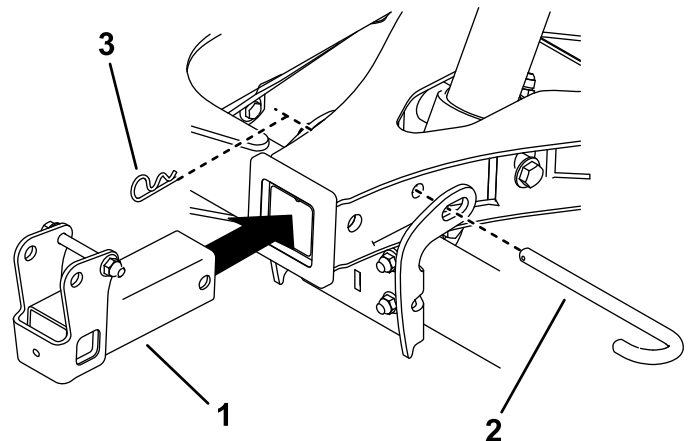

Figure 10
6. Remove the hitch pin and cotter pin from the A-frame and use it to install the hitch receiver (Figure 10). Ensure that the pin locks the A-frame to the cross tube.